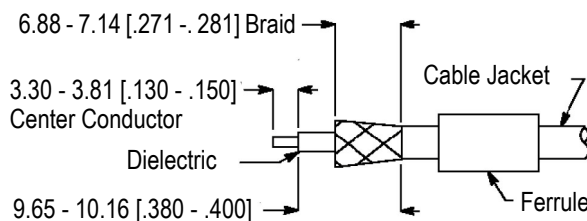

Figure 2
- Strip the cable to the dimensions shown in Figure 2. Take care not to nick any part of the cable. Flare the braid.